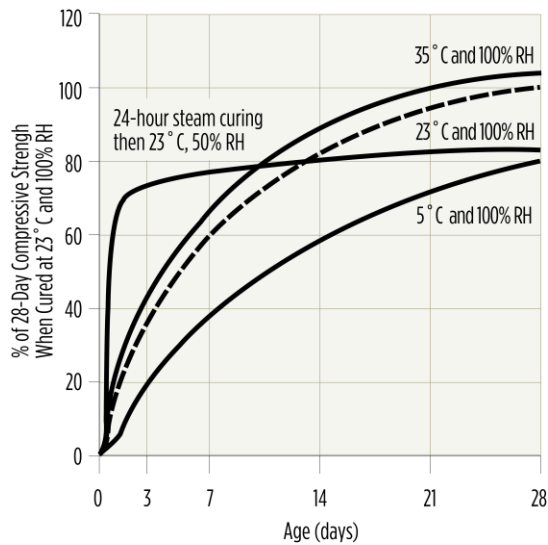

Figure 15.2 – Effect of Curing Temperature on the Rate of Strength Gain of Concrete
**Figure 15.2** illustrates the effect of curing temperature on the rate of strength gain of concrete. The figure is illustrative only as the magnitude of temperature effects depends on several factors, not the least of which are the composition and fineness of the cement.